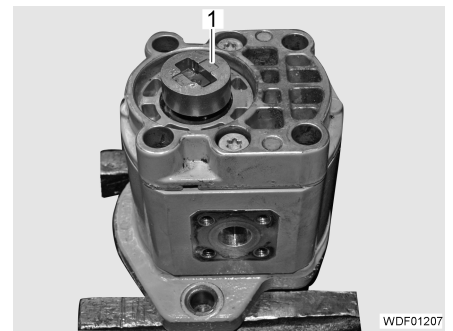

Fig. 154 Clutch
- Remove the clutch (Fig. 154,1) and place it to one side.